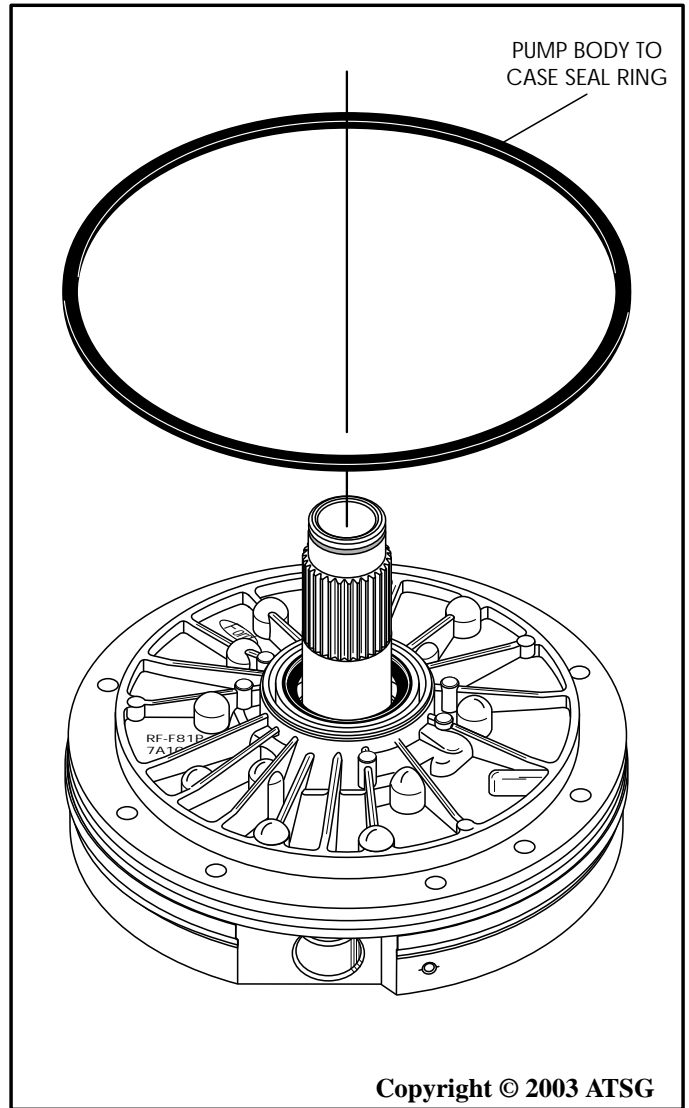

Figure 171
22. Install pump body to case seal ring, as shown in Figure 171, and ensure that it is not twisted in the groove.